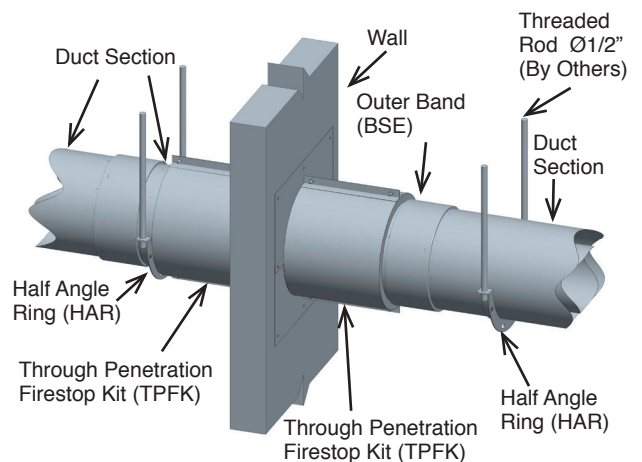
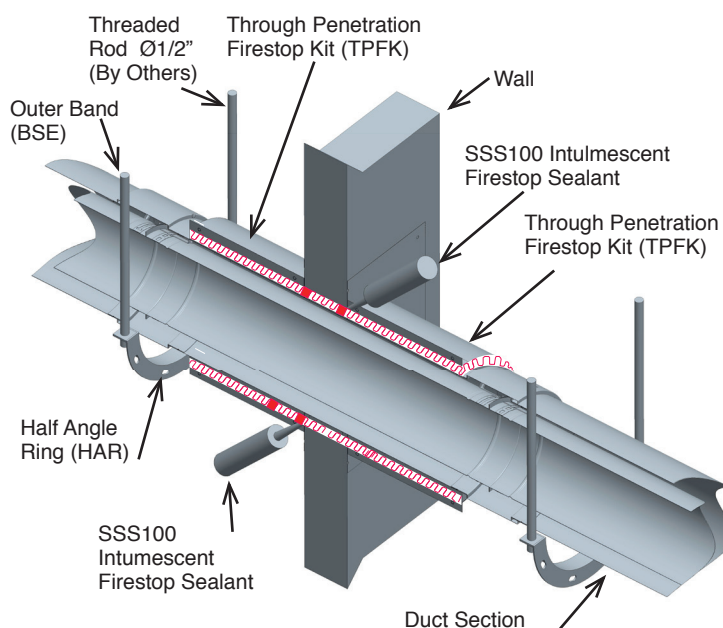

Figure 108: Supports for duct through fire-rated wall (CIX3Z only)
Figure 111: TPFK Assembled Through a fire-rated Wall (CIX3Z only)
Ducts that penetrate a fire-resistance wall (up to 2hr fire-rated) have to be supported on both side of the wall. It can either be supported by bracing a HAR, a AP or APL. See **Figure 108**.
- For Wall Penetration, use two TPFK's. See **Figure 111** and **Figure 108**.
NOTE: The cover plates, wrap insulation and split closure bands are installed on the top surface of a floor penetration and on both surfaces of a wall penetration. See **Figure 111** for the penetration through a wall.